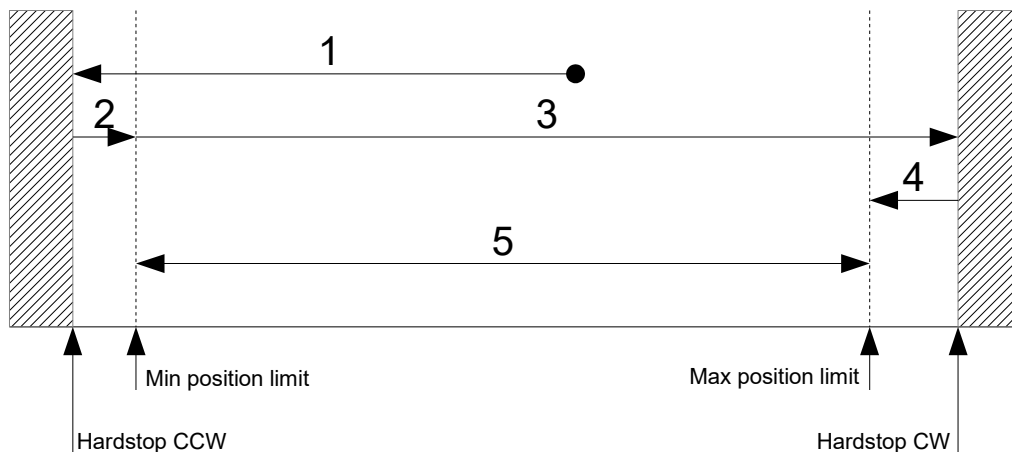

Figure 9: Double ended homing CCW
For this homing method, the motor is driving with a constant negative velocity (6099_h:2) counterclockwise into a hard stop (1) as shown in figure 9. While driving into the hardstop the actual motor current is measured and compared with the negative current threshold (2025_h:4). If the negative current threshold is reached, the motor moves back by +PositionOffset_CCW (2025_h:3) encoder steps (2). There the actual position (6064_h) and the min position limit (607D_h:1) are set to 0 and the motor drives on into the positive direction with a constant positive velocity (3). If the positive current threshold is reached, the motor moves back by -PositionOffset_CW (2025_h:2) encoder steps (4). Then the motor is stopped and the max position limit (607D_h:2) is set to the actual position value (6064_h). The velocity is limited to (6099_h:1).